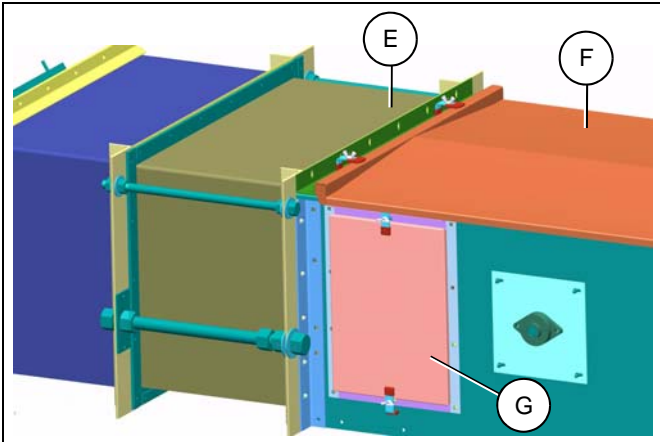

Figure 4C
- 3. Two (2) inspection intermediate sections are included on each installation. They should be assembled at the head and tail. The inspection holes should be oriented closest to the head or tail. (See Figure 4C.)